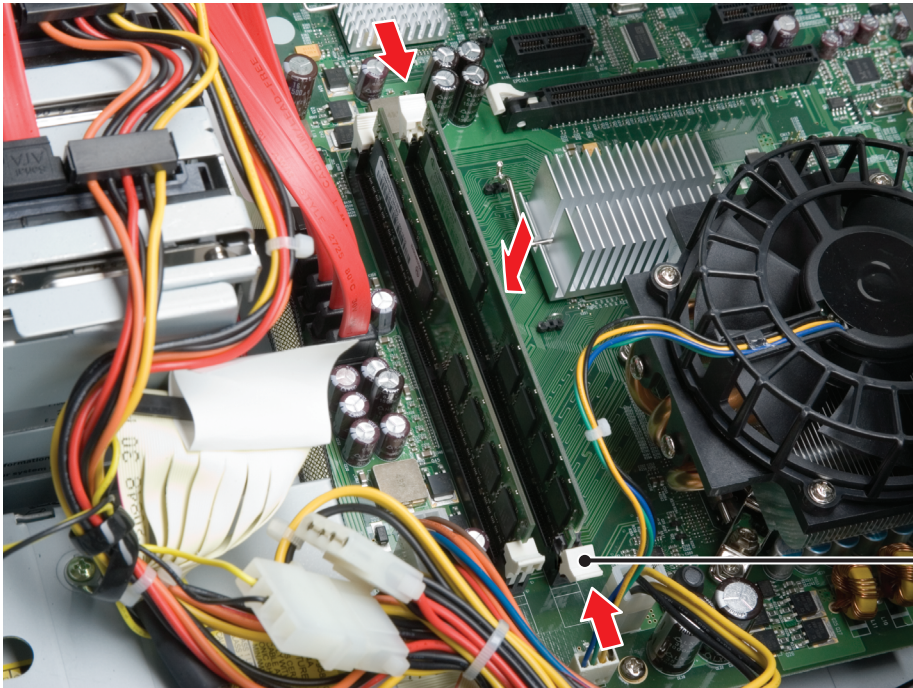

Figure 9. Seating and Securing the DIMM Module
4. Carefully, but firmly, push the DIMM module into the empty socket until it is properly seated. The module is properly seated when the retaining clips snap back into place as in Figure 9.